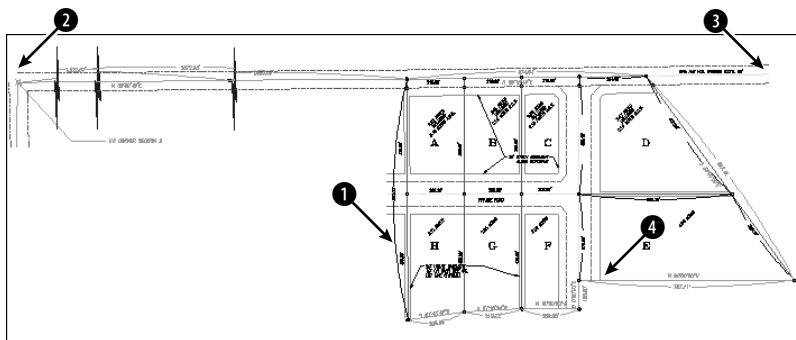

Figure 12-5: A civil engineering drawing of several plots of land.
1. Open ab12-a.dwg from the CD-ROM if it isn't already open from the previous exercise. This is a civil engineering drawing that shows several plots of land, as shown in Figure 12-5. OSNAP should be on. Set a running object snap for the endpoint.
2. Choose Tools ⇨ Inquiry ⇨ List. At the Select objects: prompt, pick 1 in Figure 12-5. Press Enter to end object selection. The result is shown in Figure 12-6. Note the surveyor's units.
3. Choose Tools ⇨ Inquiry ⇨ Distance. At the Specify first point: prompt, choose the endpoint at 2 in Figure 12-5, using the endpoint running object snap. At the Specify second point: prompt, choose the endpoint at 3. Here's the result:
4. Choose Tools ⇨ Inquiry ⇨ ID Point. At the Specify point: prompt, pick the endpoint at 4 in Figure 12-5. Here is the result: